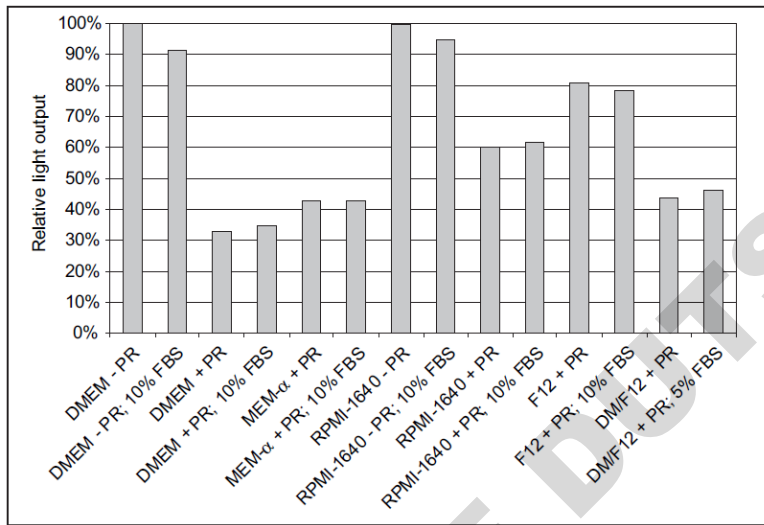
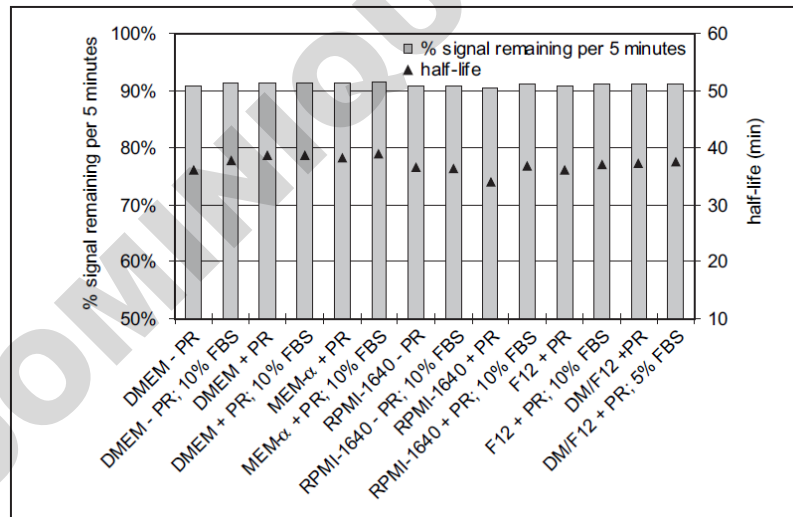

Figure 4: Relative light output in different media
Figure 5: Signal stability in different media expressed as a percentage of signal remaining per 5 minutes and half-life (minutes)
To assess the influence of different culture media on luminescence light output, the following experiment was performed using commercially available basal media in the presence and absence of Fetal Bovine Serum (FBS) and Phenol Red (PR). 100 μ L britelite plus was added to 100 μ L samples of the different media in a white 96-well OptiPlate, where each sample contained luciferase at a concentration of 5×10^{-10} gram per mL. After shaking the plate, the light output was measured using a TopCount NXT. Figure 4 illustrates the results of the
relative luminescence after 5 minutes count delay. Figure 5 shows the results of the stability of the signal as a function of the culture media used.
The results from Figure 4 show that the light output is to some extent affected by FBS but that Phenol Red has a much larger impact on the light output reflecting the concentrations of Phenol Red in the basal media. Consequently, the use of Phenol Red in culture media should be avoided to attain the highest signal. The stability of the luminescent signal is only somewhat dependent on the media as shown in Figure 5.
- Phenol Red, as well as other colored compounds, will chemically not interfere with the luciferin/luciferase reaction, but will quench some of the emitted light, resulting in lower assay signals (see Figure 4). For optimal light output, the culture medium can be substituted with **Dulbecco's PBS containing calcium and magnesium ions** prior to the addition of britelite plus.